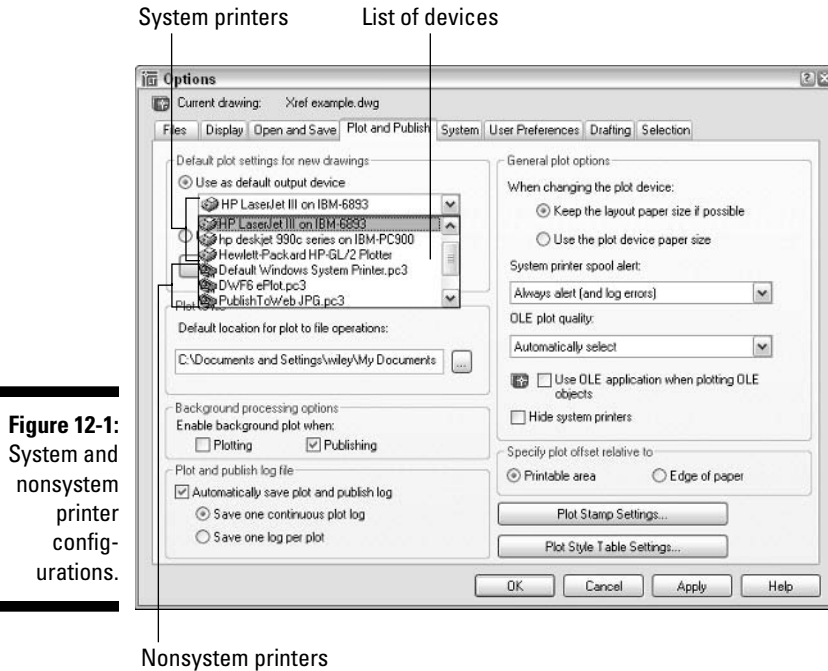

Figure 12-1:
3. **Click the drop-down arrow to view the list just below the Use As Default Output Device option, as shown in Figure 12-1.**